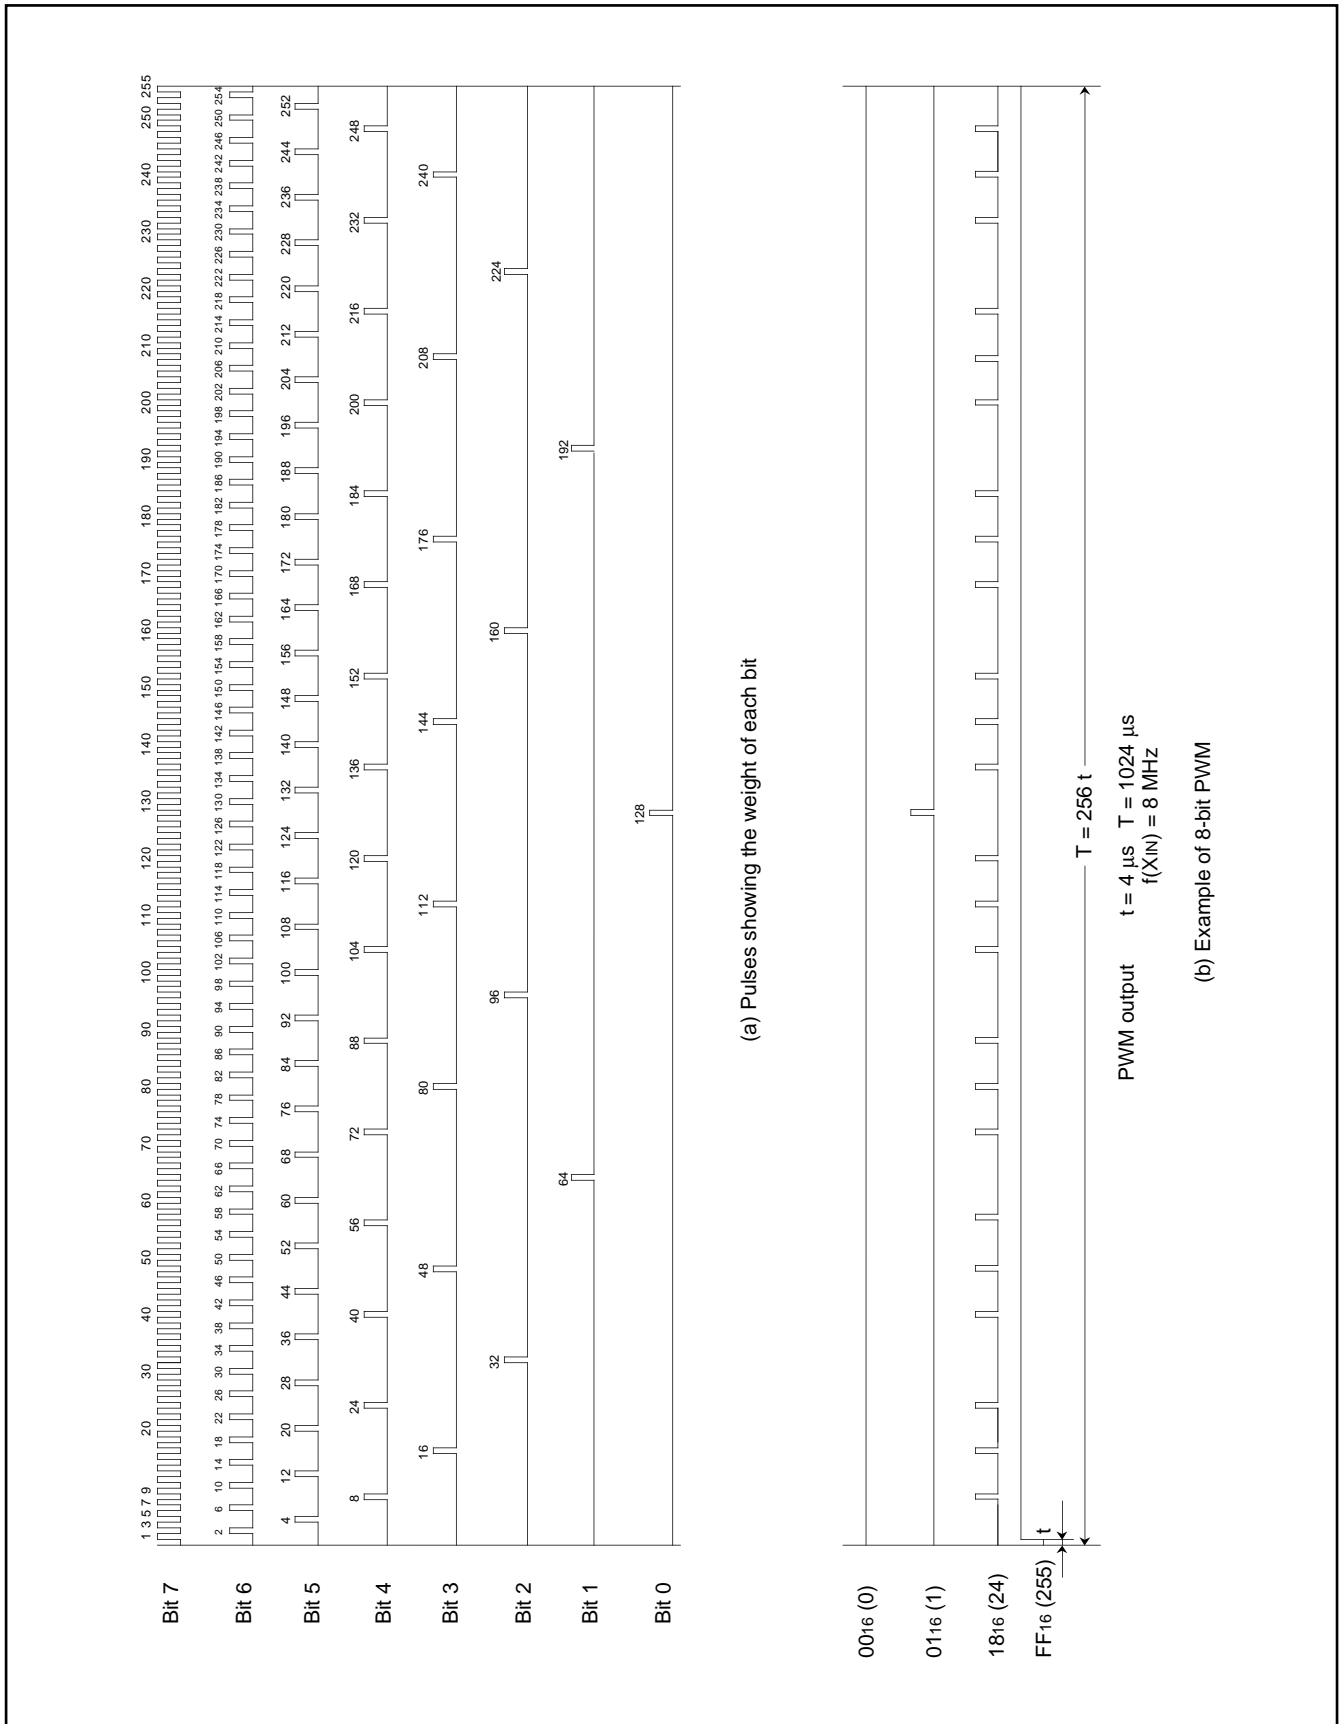

Fig. 26. 8-bit PWM timing
Figure 26 shows the 8-bit PWM timing. One cycle (T) is composed of 256 (2^8) segments. The 8 kinds of pulses relative to the weight of each bit (bits 0 to 7) are output inside the circuit during 1 cycle. Refer to Figure 26 (a). The 8-bit PWM outputs waveform performed a OR operation of pulses corresponding to the contents of bits 0 to 7 of the 8-bit PWM register. Several examples are shown in Figure 26 (b). 256 kinds of output ("H" level area: 0/256 to 255/256) are selected by changing the contents of the PWM register. A length of entirely "H" output cannot be output, i.e. 256/256.
(4) Operating of 14-bit PWM